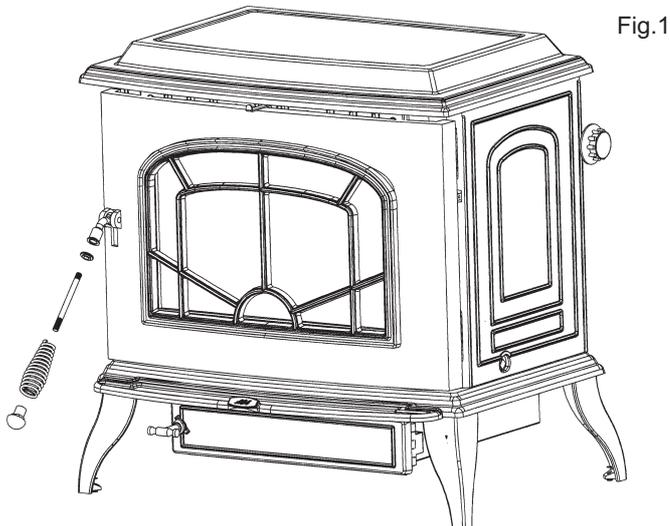

Fig.1
2. Fit the front door handle as shown in Fig.1.